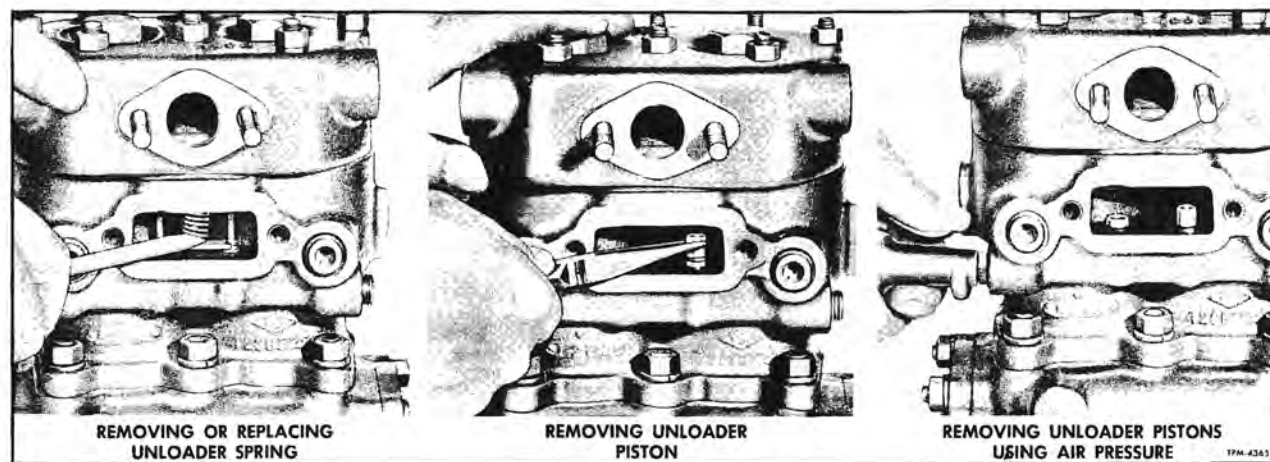

Figure 6—Removing Unloader Components
### REMOVAL (Fig. 6)
3. Lift each plunger guide and remove guide and plunger. Lift pistons out of bores. If piston is not easily removed, build up air pressure in system until governor cuts out raising piston. If compressor has been removed from vehicle, use air pressure as shown in figure 6.